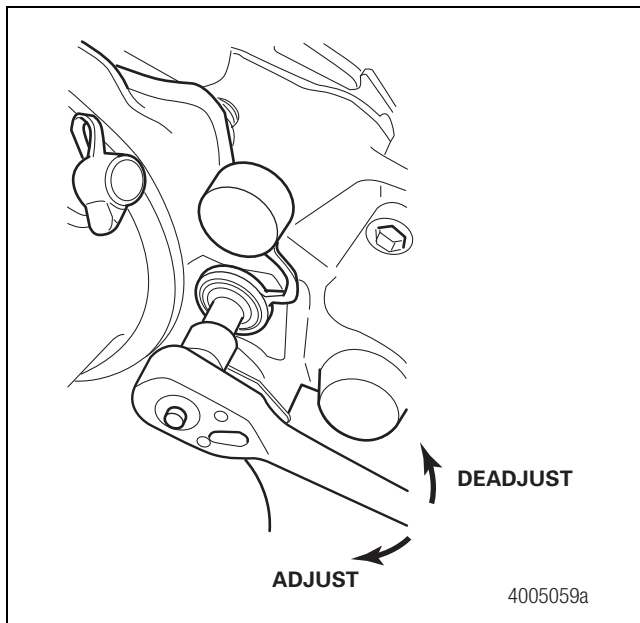

Figure 7.4
- For disc brake wheel ends, back off the brake caliper until the rotor is clear from the pad linings about 1/16-inch (1.588 mm) gap or more. Refer to Maintenance Manual MM-0467, EX+™ Air Disc Brake, for more information about EX225 disc brake inspection and adjustment. To obtain this publication, refer to the Service Notes page on the front inside cover of this manual. Figure 7.4.